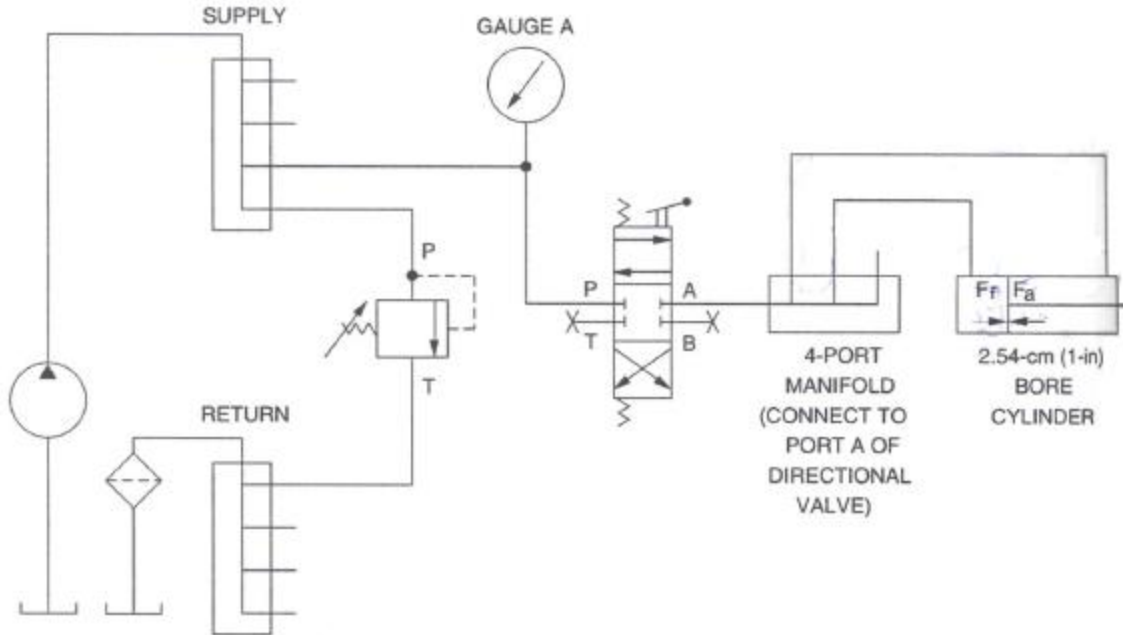

Fig. 9 Schematic diagram of Applying equal pressure on both sides of a piston.
Connect the circuit shown in Figure 9, 10. Use the 2.54-cm (1-in) bore cylinder.
- Examine the circuit of Figure 9. Predict which side of the piston will develop the most force.